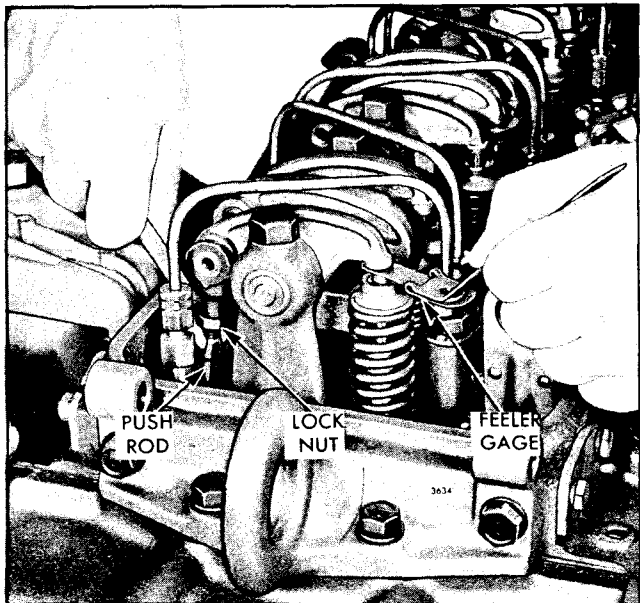

Fig. 1 - Adjusting Valve Clearance
5. Place a .013 " feeler gage, tool J 9708, between the valve stem and the rocker arm (Fig. 1). Adjust the push rod to obtain a smooth "pull" on the feeler gage.